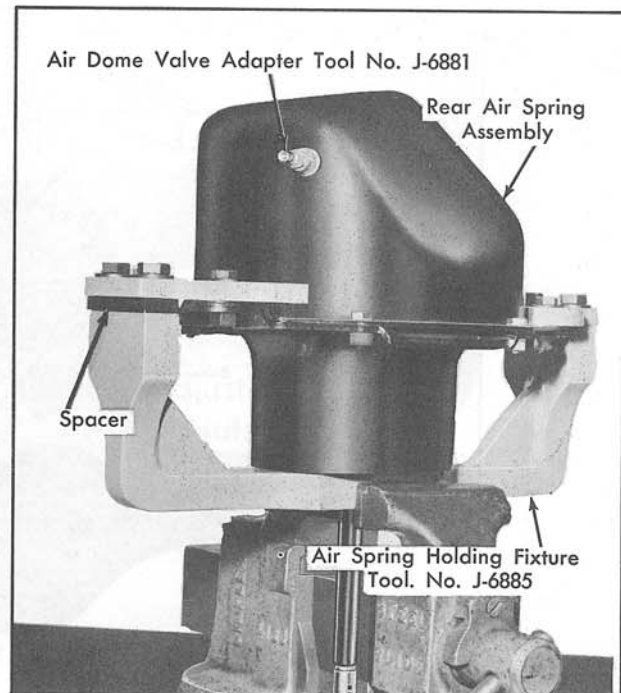

Fig. 4-27 Rear Air Spring Leak Test
1. Using a vise, install rear air spring assembly in Holding Fixture, Tool No. J-6885, Fig. 4-27, centering piston rod (with seat and rubber seal removed from lower end of piston rod) in pilot hole at bottom of Holding Fixture.